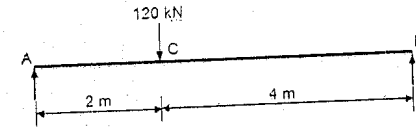

Figure.6
- Que.5 a) A simply supported beam carrying a point load is shown in fig.6. Determine **8 Marks**